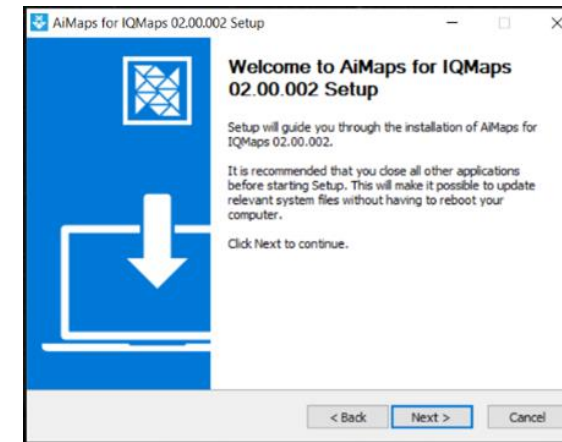

Fig. 9 AiMaps install step 1
2. Press the ***NEXT*** button of Fig. 9,